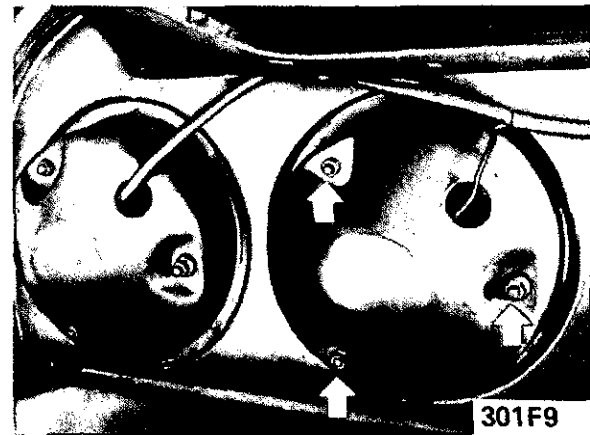

Figure 1F-9 Tail Light Housing Attaching Nuts - Models 57-57R
2. In luggage compartment, unscrew three (3) housing attaching nuts. See Figure 1F-9.